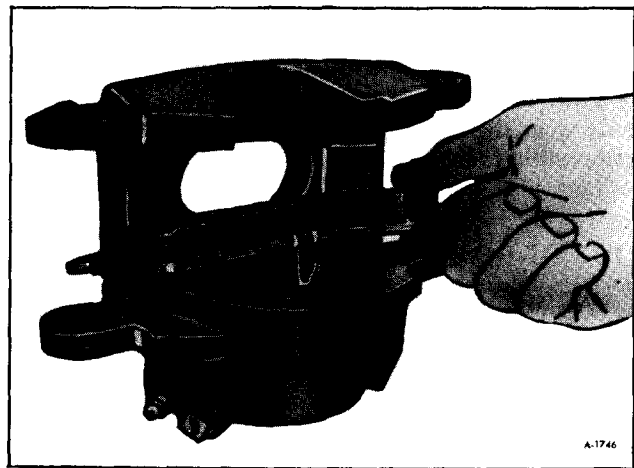

Figure 56—Installing Inboard Shoe
4. Position the new inboard shoe and lining assembly (with spring attached) in the caliper so that the ear end of the shoe and lining is down and the bottom end up at an angle with the spring resting on the piston I.D. (figure 56). Press down on both ends of the shoe until the shoe is in a flat position, resting on the piston. The spring end of the inboard shoe support spring should be resting on the I.D. of the piston.